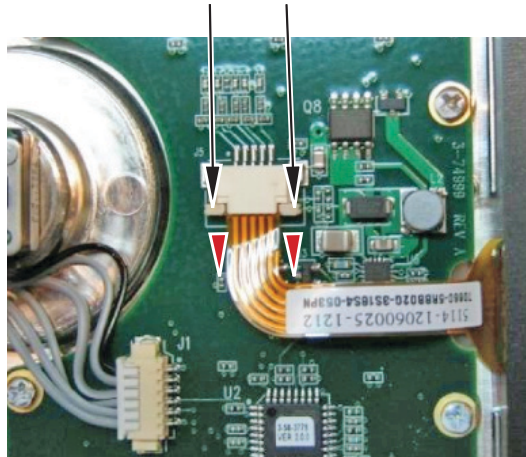

Figure 5-13. Keypad Touch Screen Connector
4. Remove the Rotary Encoder, Speaker, Touch Screen and Main Board connectors from the Keypad PCB. Note that the Touch Screen connector has two locking tabs that must be pulled down (out) before removing the connector from the Keypad PCB. See Figure 5-13 for Touch Screen cable connection.
4. Remove the touch screen flex circuit connector from the Keypad PCB by pulling the tabs on each side of the connector away from the connector and in the direction of the flex circuit, Refer to Figure 5-13.